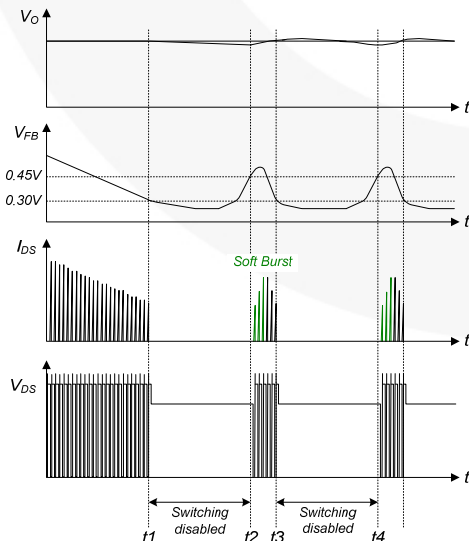

Figure 22. Burst-Mode Operation
5. Soft Burst-Mode Operation: To minimize power dissipation in Standby Mode, the FSL138MRT enters Burst-Mode operation. As the load decreases, the feedback voltage decreases. The device automatically enters Burst Mode when the feedback voltage drops below V_{BURL} (300mV), as shown in Figure 22. At this point, switching stops and the output voltages start to drop at a rate dependent on standby current load. This causes the feedback voltage to rise. Once it passes V_{BURH} (450mV), switching resumes. The feedback voltage then falls and the process repeats. Burst Mode alternately enables and disables switching of the SenseFET, reducing switching loss in Standby Mode.